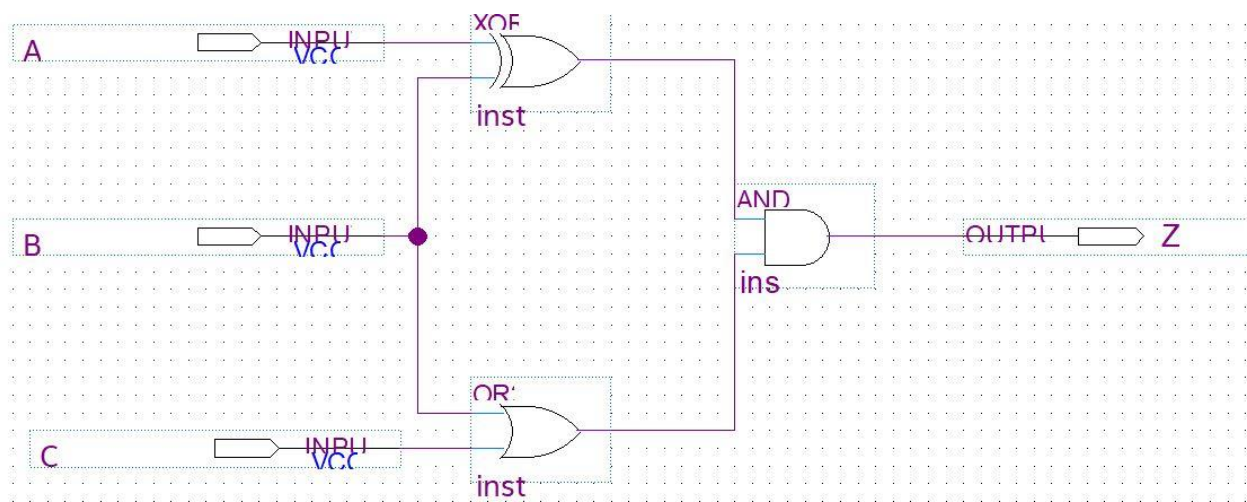

Figure 1.5: Section 1 Combinational Logic
Figure 1.5 shows the design that will be drafted in Quartus Prime.
Follow these steps to enter the design for this section shown in Figure 1.5 into Quartus.
5. Add both other gates (XOR & OR2) from Figure 1.5 onto the schematic.
2. Wire all the symbols together as shown in figure 1.5. Hold left click to draw wire connections.
2. Place the input marker on the wires leading into the gates, like in Figure 1.5
1. Verify that the schematic design matches the combinational logic circuit shown in Figure 1.5